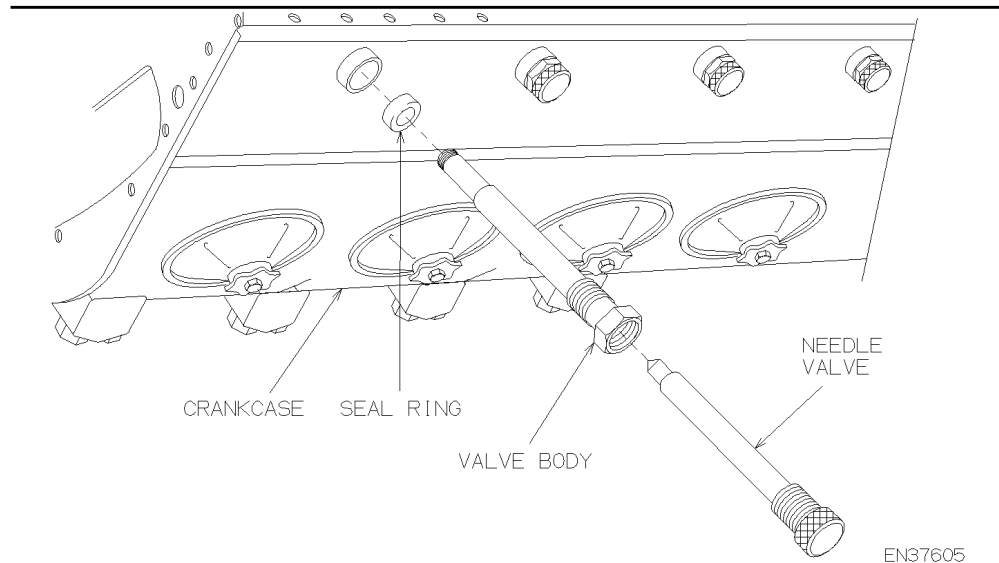

Figure 2-32. Typical Cylinder Test Valve
Cylinder test valves, Figure 2-32., are provided on the engine at each cylinder. When maintenance or inspections are performed, the valves are opened to relieve compression, reducing the effort required to rotate the crankshaft. With the test valves open, fuel and coolant leaks can be detected by fluid discharge at the valves while the engine is being barred over.
1. If a cylinder test valve is leaking, check that the needle valve, Figure 2-32 on page 2-33, has been properly tightened. Should the valve continue to leak, remove the valve from the engine and ream the valve seat as shown in Figure 2-34.